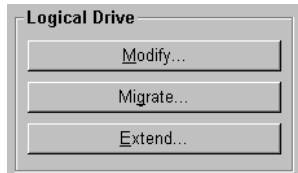
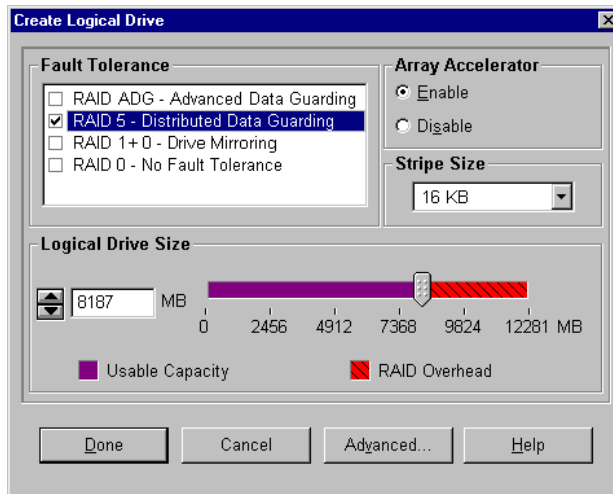

Figure 7-8: Logical Drive box
Figure 7-11: Create Logical Drive screen
To display this screen, click **Modify** in the **Logical Drive** box (Figure 7-8) on the main ACU screen. This screen resembles the **Create Logical Drive** screen (Figure 7-11), and lets you change the parameters of an existing logical drive while online, without causing data loss.
To display this screen, click **Migrate** in the **Logical Drive** box (Figure 7-8) on the main ACU screen. It allows you to change the stripe width (block size) or RAID level of an existing logical drive while online, without causing data loss.
To display this screen, click **Extend** in the **Logical Drive** box (Figure 7-8) on the main ACU screen. This screen allows you to increase the capacity of a logical drive while the system is online, without disruption of data.
3. On the **Create Logical Drive** screen (Figure 7-11), select **RAID 5**.